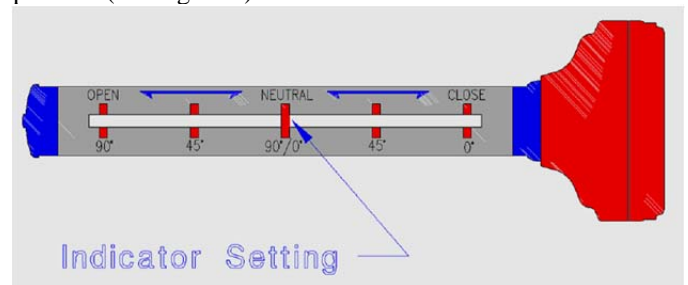

Figure 4
B) Make sure that the Jackscrew is in the neutral position (see Figure 4).